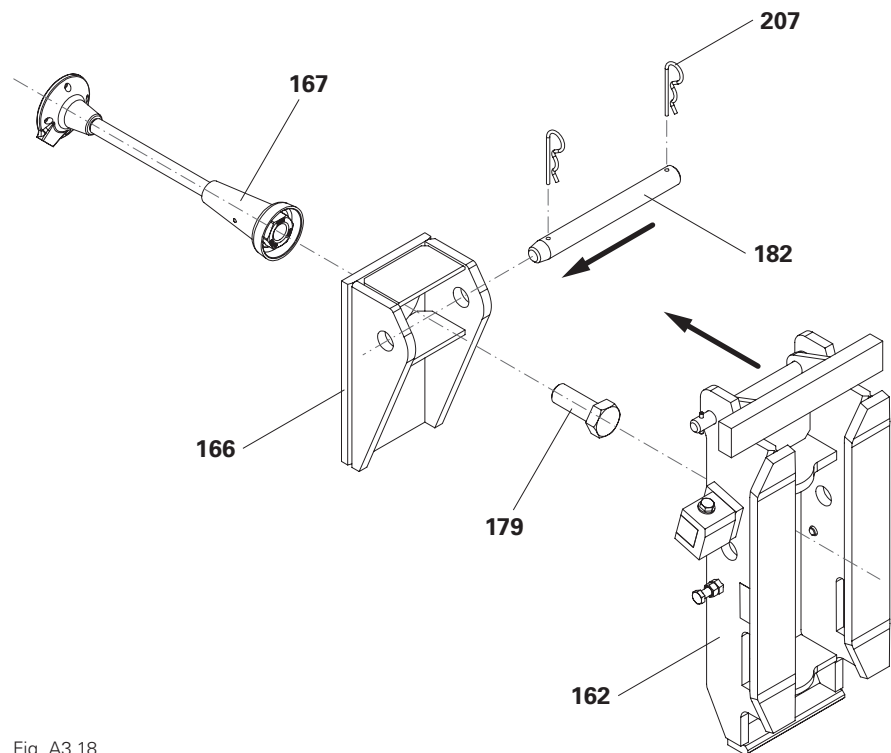

Fig. A3.18
1. Screw the Tie Shoe-H ACS (166) to the climbing tie (167) using bolt ISO 4017 M30 x 80-10.9 (179).
2. Slide Climbing Shoe IV ACS (162) onto the Tie Shoe-H ACS (166).
3. Fasten them with bolts \varnothing 30 x 280 (182) and secure with two cotter pins 5/1 (207).
- (Fig. A3.18)